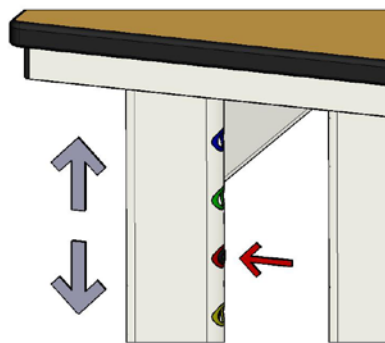

Figure 2
- Press the button and set the desired table height (Fig. 2).